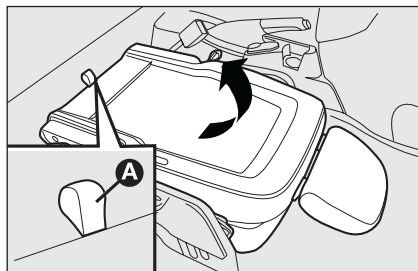

fig. 25
- ☐ grab the lever **A**-fig. 25 and lift the backrest;